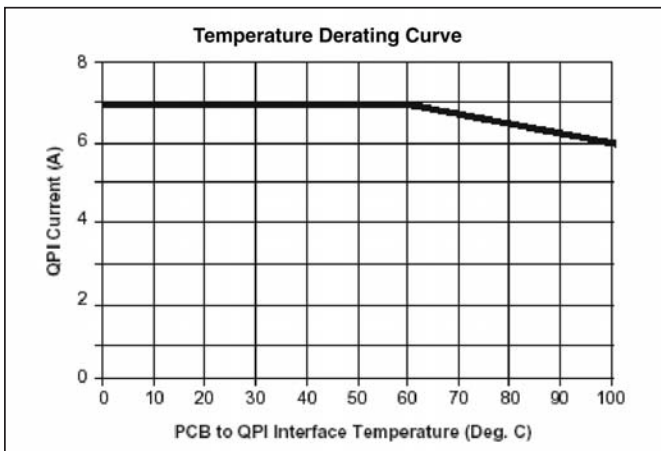

Figure 6 – Current vs. PCB temperature derating curve.
- -40° to +100°C PCB temperature (see *Figure 6*)
Note 2: See Figure 6 for current derating curve.